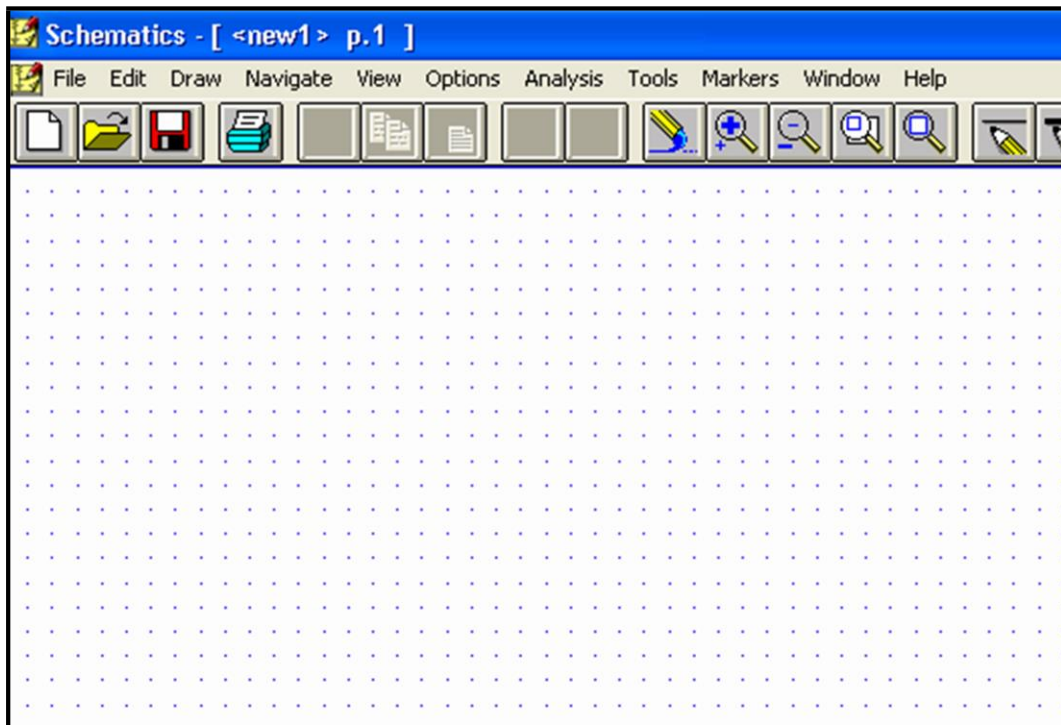

Figure 1
- You will see the window as shown in Figure 1.